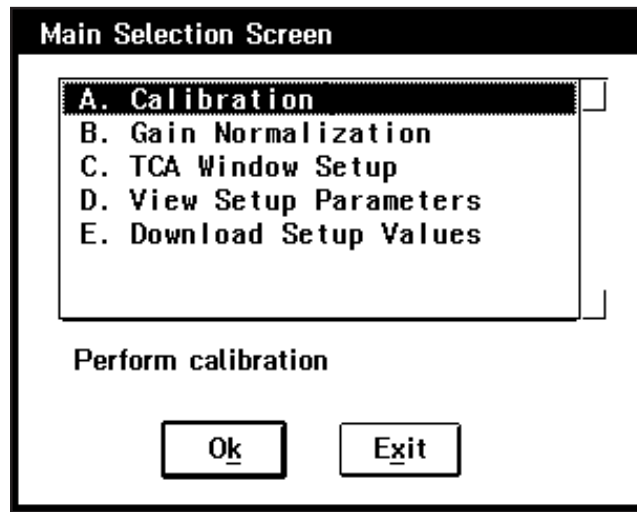

Figure 13 Starting the Calibration Procedure
1. Select Calibration from the 2016 setup software's Main Selection Screen, as shown in Figure 13.